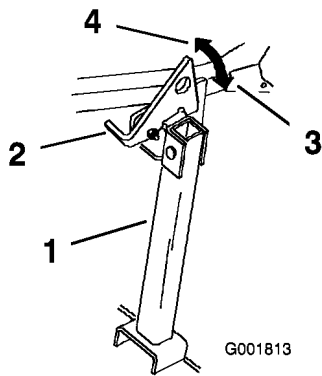

Figure 34
2. Raise the latch to the unlocked position (Figure 34).